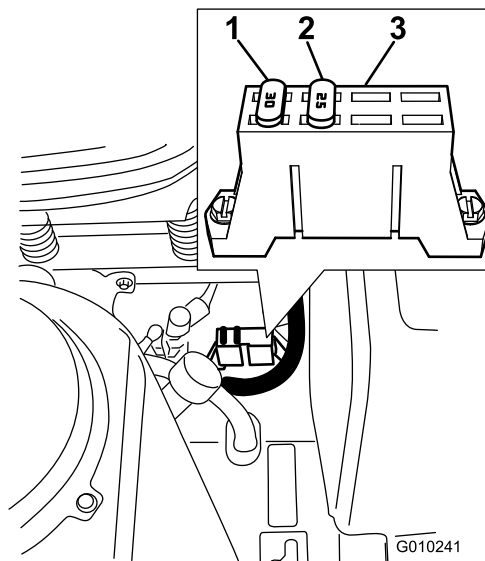

Figure 14
5. For 2013 and older models, install the 15A fuse into the open accessory circuit in fuse block (Figure 14).